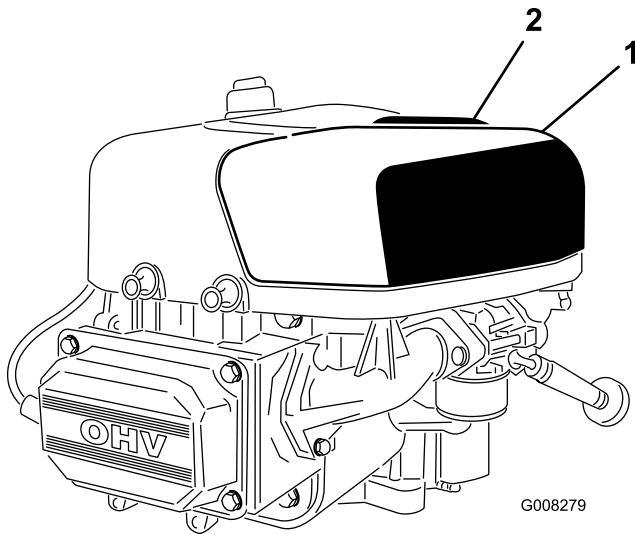

Figure 21
2. Pull up on the air cleaner cover handle and rotate it toward the engine (Figure 21).